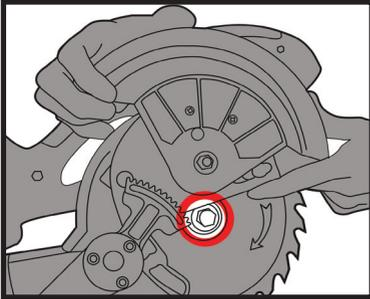

Fig 2
4. The front locating screw is a fixed shoulder screw and should not be touched. Slide and rotate the cover plate to expose the blade arbor nut. (Fig 2)